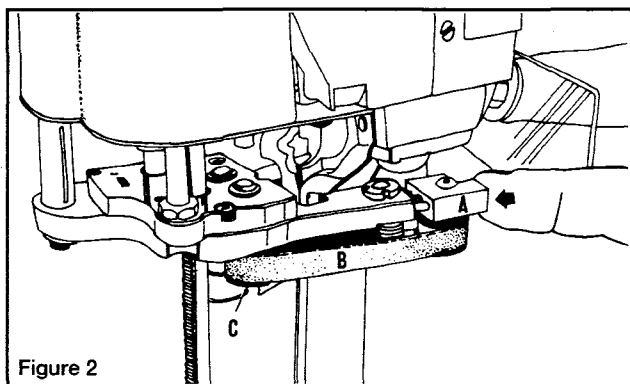

Figure 2
## 2.5 TO CHANGE FLEXIBANDS (Figures 2 and 3)
- Figure 2: Push Block "A" to release right (upper) FlexiBand "B". Remove FlexiBand from Block and then from Drive Pulley "C".